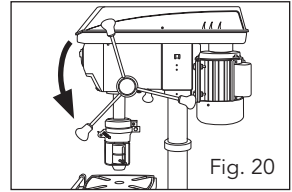

Fig. 20
1. Turn the feed handle (8) to move the drill chuck to the lower position (Fig. 20).